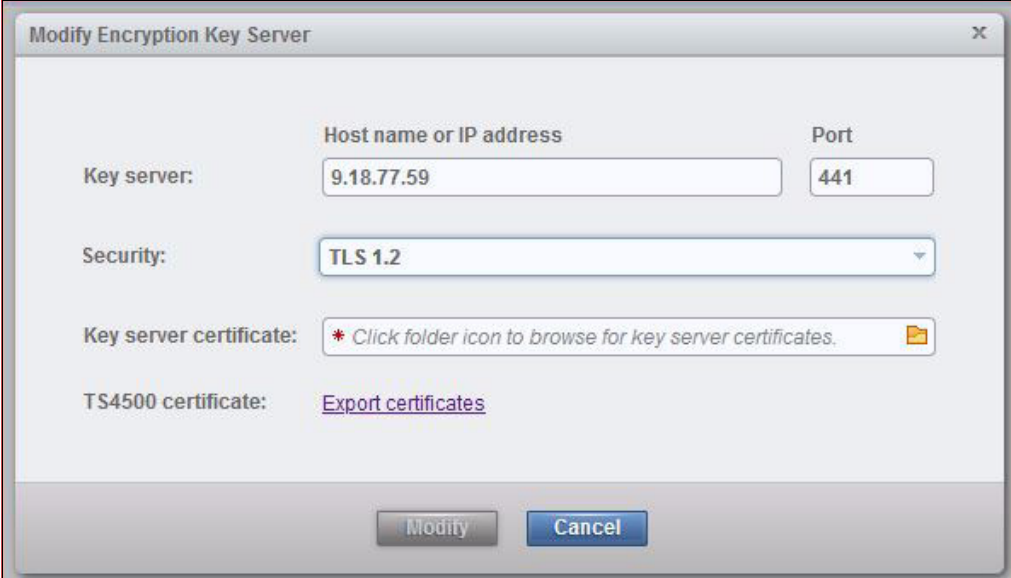

Figure 3-2 TLS1.2 option
4. Select the Security type: TLS1.2 or Proprietary. If TLS1.2 is selected (see Figure 3-2), a Key server certificate must be added to the TS4500 by using the folder browser. The file can contain a chain of certificates. The file also must be in base64 privacy enhanced mail (PEM) format. The maximum length is 255 characters.